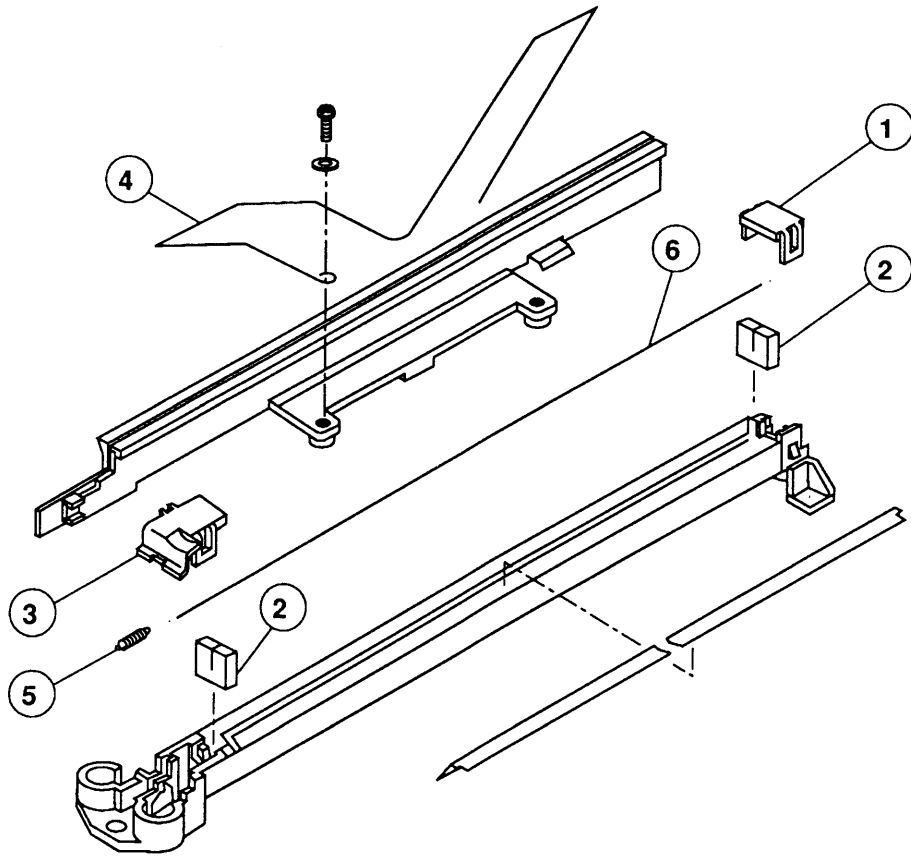

FIGURE 19
□ **TRANSFER CORONA ASSEMBLY (Figure 19)**